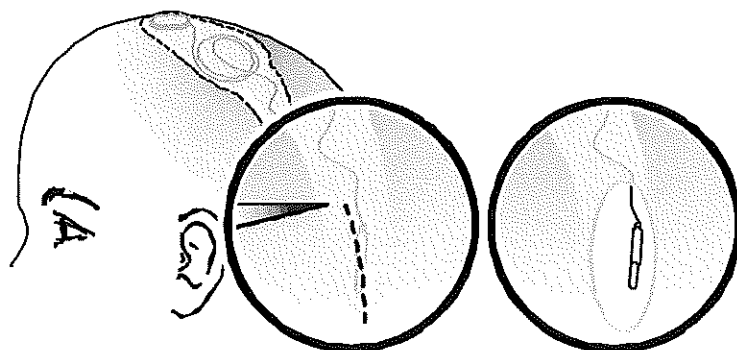

Figure 32: Make incision to expose lead and lead cap.
2. Make an incision sufficient to expose the lead and lead cap. Allow room to hold the lead firmly when accessing the lead cap and when connecting the lead to the extension (Figure 32).